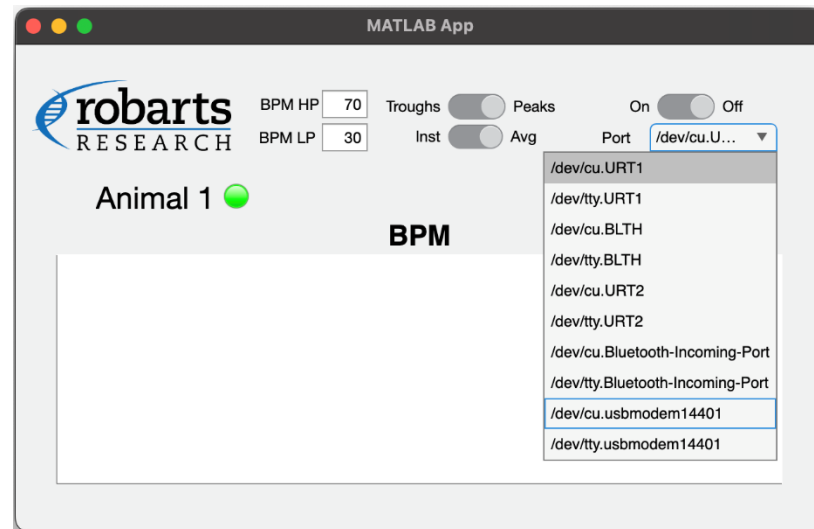

Figure 9
- Once the application launches, select the pull-down menu “Port” and select any of the “...usbmodem...” options. In this example “dev/cu.usbmodem14401” (Fig 9).